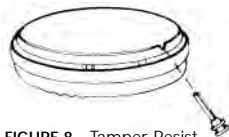

FIGURE 8 Tamper Resist Locking Pin
7. USING TAMPER RESIST LOCKING PIN: To make your smoke alarm tamper resistant, a locking pin has been provided in the bag with the screws and anchors. Using this pin will help deter children and others from removing the alarm from the mounting plate. To use the pin, insert it into the hole in the side of the alarm after the alarm has been installed on the mounting plate (see Figure 8).